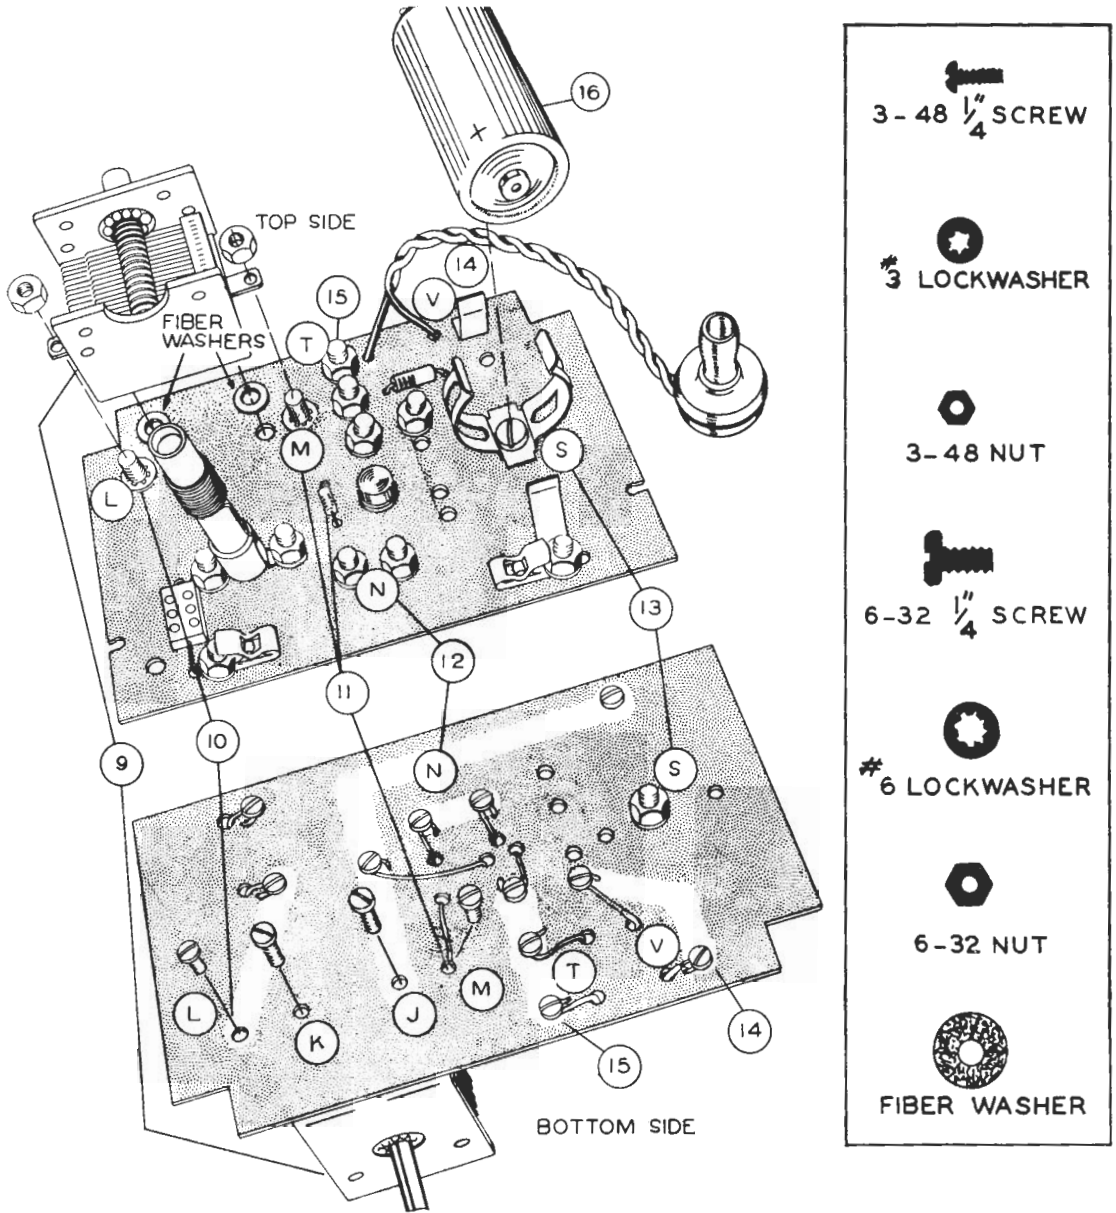
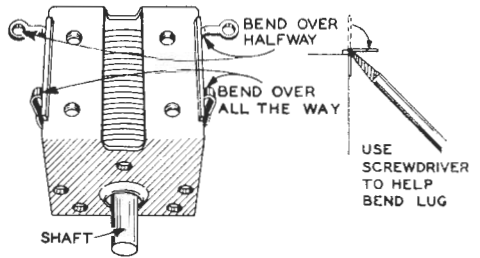

Figure 3
Figure 4
See Figure 3 for the following steps.
9 (✓) Bend the lugs on both sides of the tuning capacitor as shown in Figure 4. Now mount the tuning capacitor with two 6-32 screws and two fiber washers at (K) and (J). The shaft of the tuning capacitor should point away from the coil. Turn the shaft until the tuning capacitor is closed as shown in Figure 3.